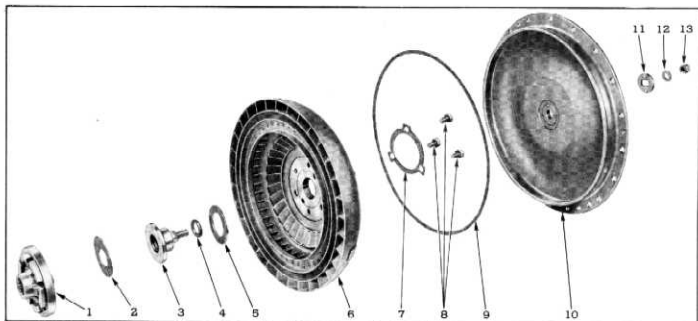

Fig. 86—Layout of Turbine Parts to Transmission KT-22574A-15-D
8. Figure 86 shows layout of turbine parts of